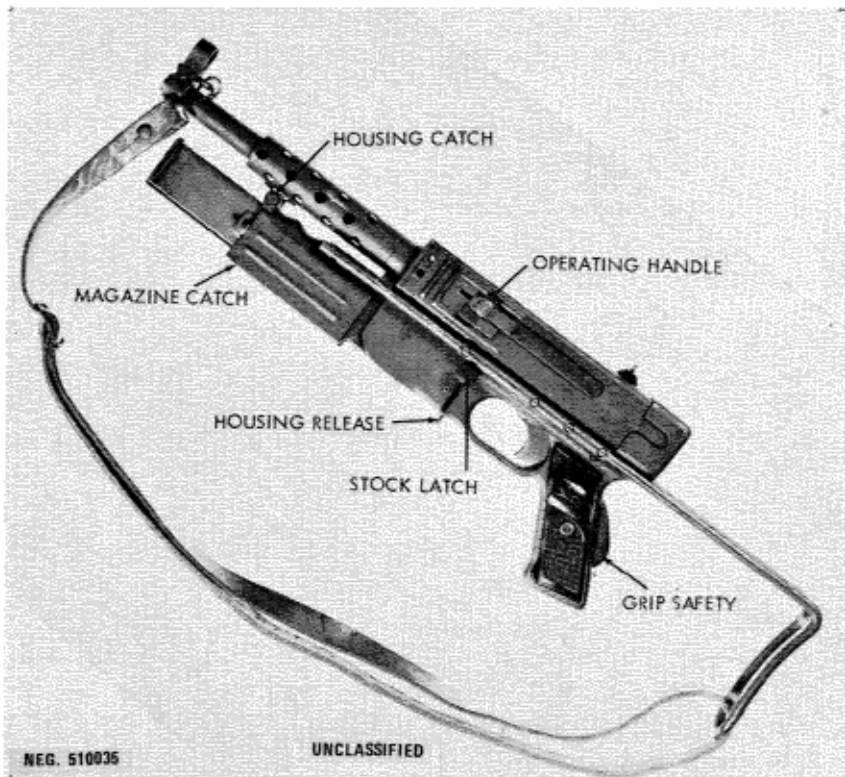

Figure 36. French M.A.T. 49 submachinegun.
(1) Open the bolt and place the special blank cartridge into the chamber. (CAUTION: Never use a bulleted cartridge.) Place the selector on safe.
(2) Hold the UZI horizontal and slide the grenade (only 22-mm inside-diameter tail boom grenades) onto the launcher. Remove the safety pins if necessary.
(3) Using the ogive of the grenade as the sight, aim, press the selector forward, and squeeze the trigger and grip safety.
(4) If possible, avoid using a folding stock UZI for launching grenades.
a. The French 9-mm M.A.T. Model 1949 submachinegun (fig 36) is standard in the French Army and in many of the armies of former French colonies. These guns are also used by the Viet Cong and other guerrilla forces in Asia and Africa.
b. If the magazine housing is folded forward, press the housing catch (fig 36) and swing the magazine housing down until it is vertical and until the release located on the underside of the trigger housing (fig 36) engages the magazine housing. Insert the loaded magazine into the housing until it is caught by the magazine catch. Depress the grip safety and pull the operating handle (fig 36) to the rear; then push the handle back to its forward position. CAUTION: The gun is now ready to fire.
d. There is no manual safety, as such, on this weapon, but the magazine and its housing can be swung forward under the barrel (fig 36). This action, which is the only manual safety feature, also renders the gun more compact. Press the release under the trigger housing and swing the housing and magazine forward until the housing catch locks to the bracket under the barrel jacket. The magazine and housing must be swung into position before firing (para b above).
e. Press the stock latch (fig 36) and slide the stock to either the opened or closed position.
g. Remove the magazine by depressing the magazine catch (fig 36) and pulling the magazine straight out of the magazine housing.